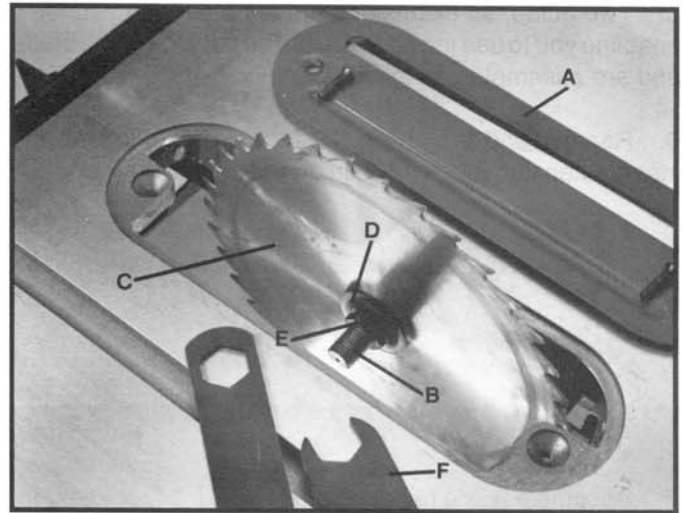
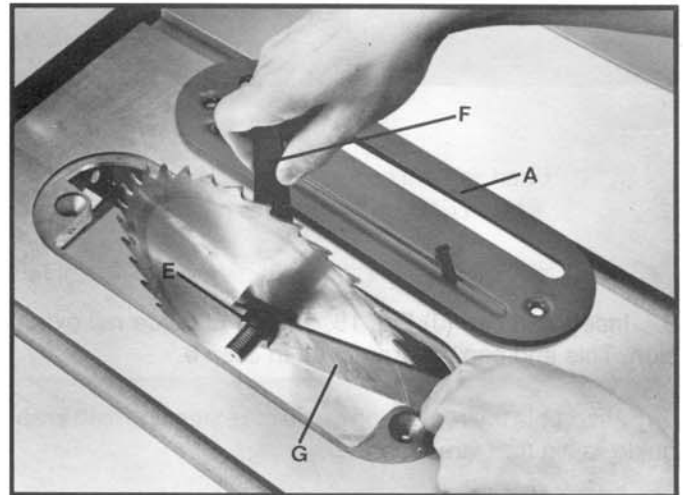

Fig. 10
Fig. 11
2. Remove the table insert (A) Fig. 10.
3. Raise the saw blade arbor (B) Fig. 10, to its maximum height by turning the blade raising handwheel counterclockwise and remove the arbor nut (E) and flange (D) from the saw arbor.
4. Assemble the saw blade (C) to the saw arbor making sure the teeth of the blade point down at the front of the table, as shown in Fig. 10, and assemble the flange (D) and arbor nut (E) to the saw arbor and tighten arbor nut (E) as far as possible by hand, being sure that the saw blade is against the inner blade flange.
5. Using the open end wrench (F) Fig. 10 and Fig. 11, supplied, place the wrench (F) on the flats on the saw arbor to keep the arbor from turning and tighten arbor nut (E) using the remaining wrench (G) Fig. 11, by turning the nut counterclockwise.
6. Replace table insert (A) Fig. 11, making certain that it is flush with table surface.